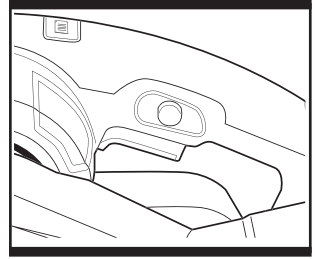

Fig. 5
4. SWITCHING ON AND OFF (Fig. 5)